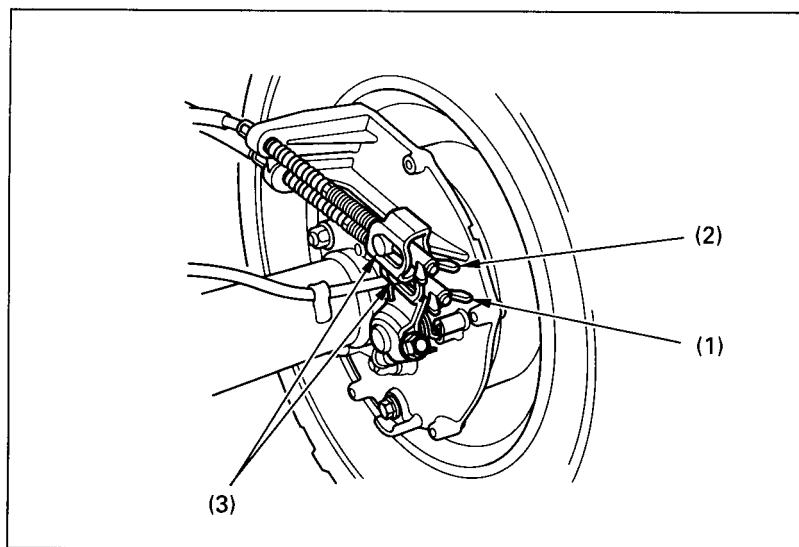

Fig. 4-28 (1) Brake pedal adjusting nut
(1) Rear brake pedal
To adjust the free play, turn the brake pedal adjusting nut (1), (Fig. 4-28), located on the brake operating rod at the rear of the frame. Make sure the cut-out on the adjusting nut is properly seated on the brake arm pin (3).
To adjust the free play, turn the brake lever adjusting nut (2), (Fig. 4-28), located on the brake operating rod at the rear of the frame. Make sure the cut-out on the adjusting nut is properly seated on the brake arm pin (3).